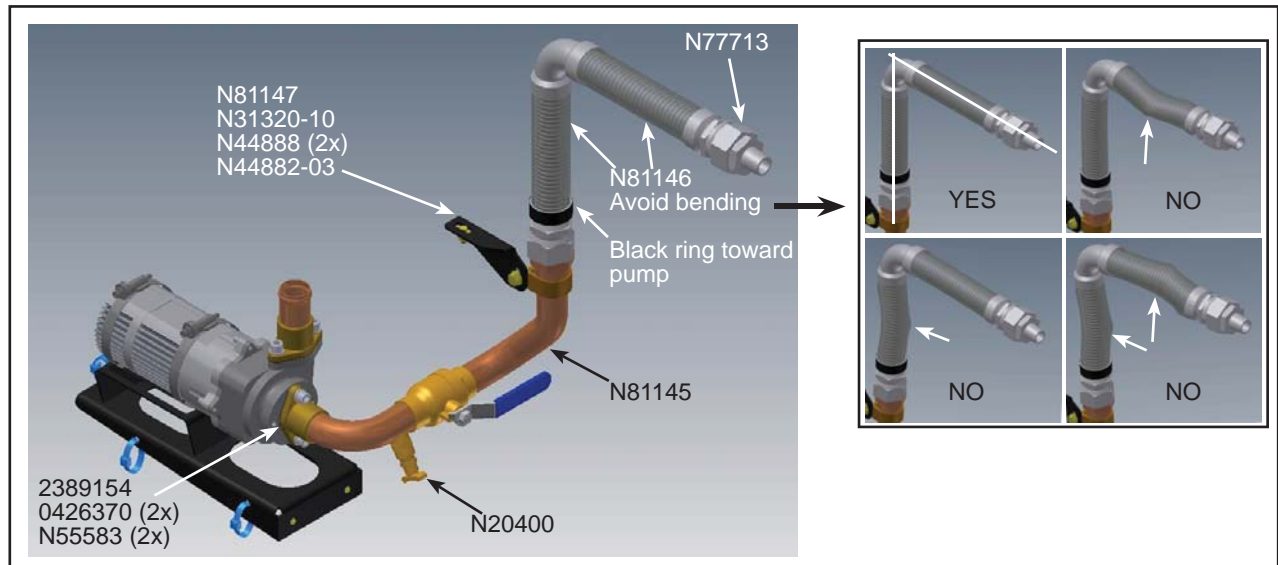

Figure 4 - Location of New Parts
- 1.7. Install N81145 pipe assembly to the auxiliary pump with 2x 042670 screws, 2x N55583 washers and 2389154 gasket. See Figure 4.
When installing N81146 pipe, the black ring must face toward the pump. See Figure 4.
N81146 flexible sections should be as straight as possible along both axes (vertically and horizontally). See Figure 4.
- 1.10. Install N20400 drain cock to N81145 pipe assembly. See Figure 4.